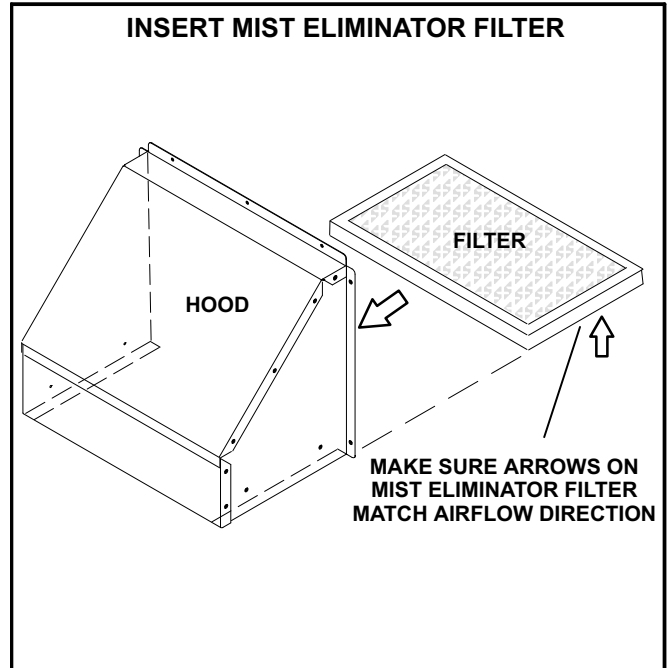

FIGURE 11
- 2- Install mist eliminator filter as shown in figure 11. Make sure arrows on filter match airflow.